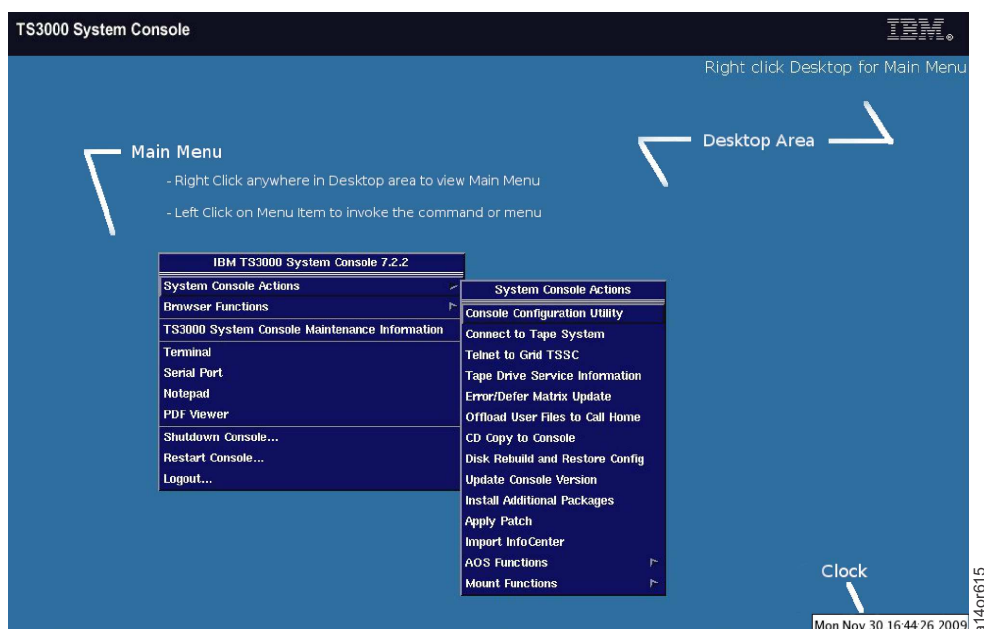

Figure 63. System Console Main Menu. Notice that the System Console Main Menu appears after you right-click inside the Desktop Area.
5. Login to the console using the ID and password posted on the screen. The System Console Main Menu shown in Figure 63 appears.
1. Right-click from anywhere in the Desktop to view the Main Menu that is shown in Figure 63.